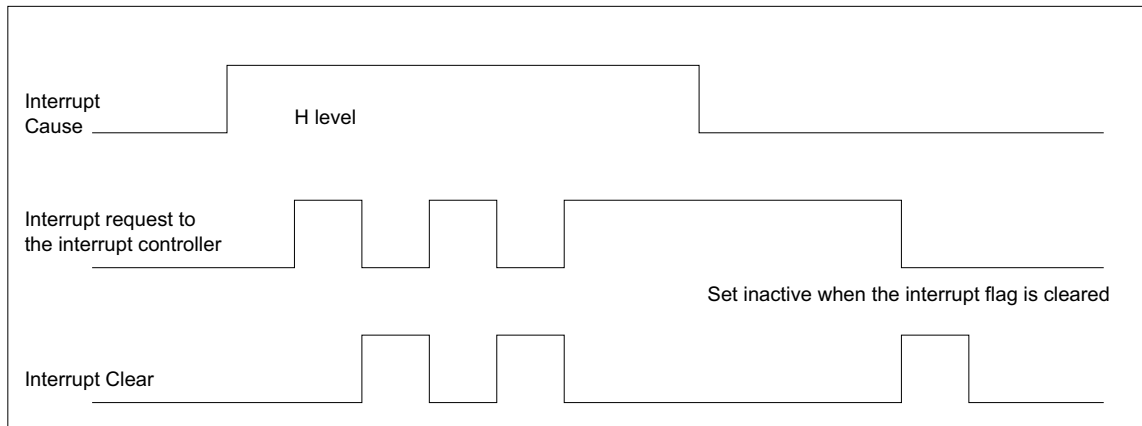

Figure 6-95: Interrupt cause and interrupt request to the interrupt controller while interrupts are enabled
- When level detection is specified as the event input, the interrupt flag keeps active status once the specified level is input even after the input signal changes to the inactive level as shown in Figure 6-95. In order to clear the request, the interrupt flag must be cleared.